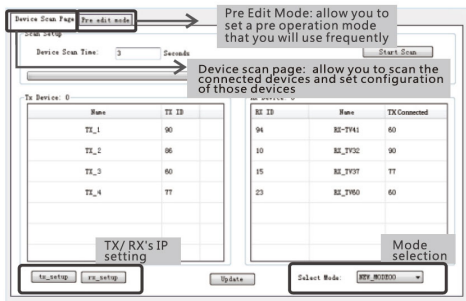

Figure 1
3. Open the application downloaded earlier, the interface is displayed, see Figure 1.